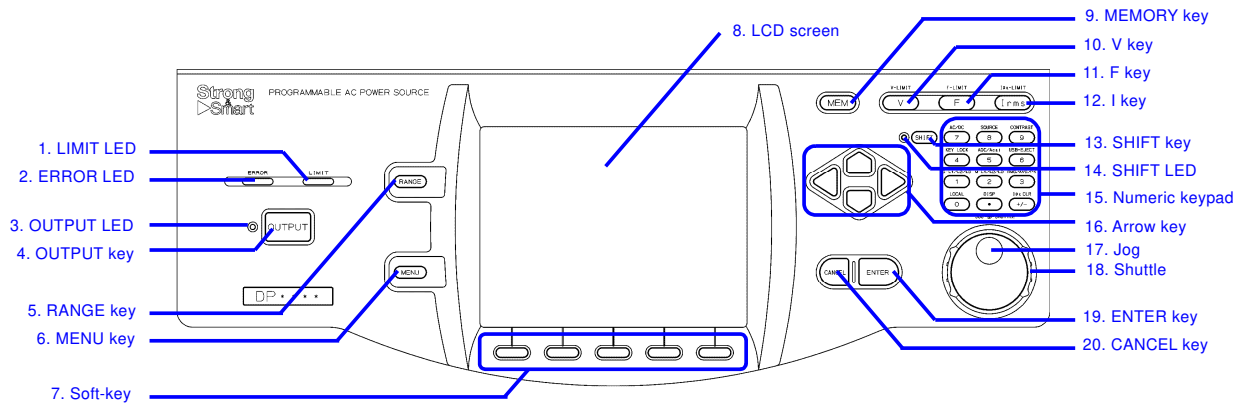

Figure 3-4 Component Name (Control Panel)
2. The self check is performed and the result is displayed. If any problem is detected, or if you change the polyphase system connection, the startup process halts in the self check screen shown in Figure 3-4. Check the self check result and press the ENTER key to resume the startup process.